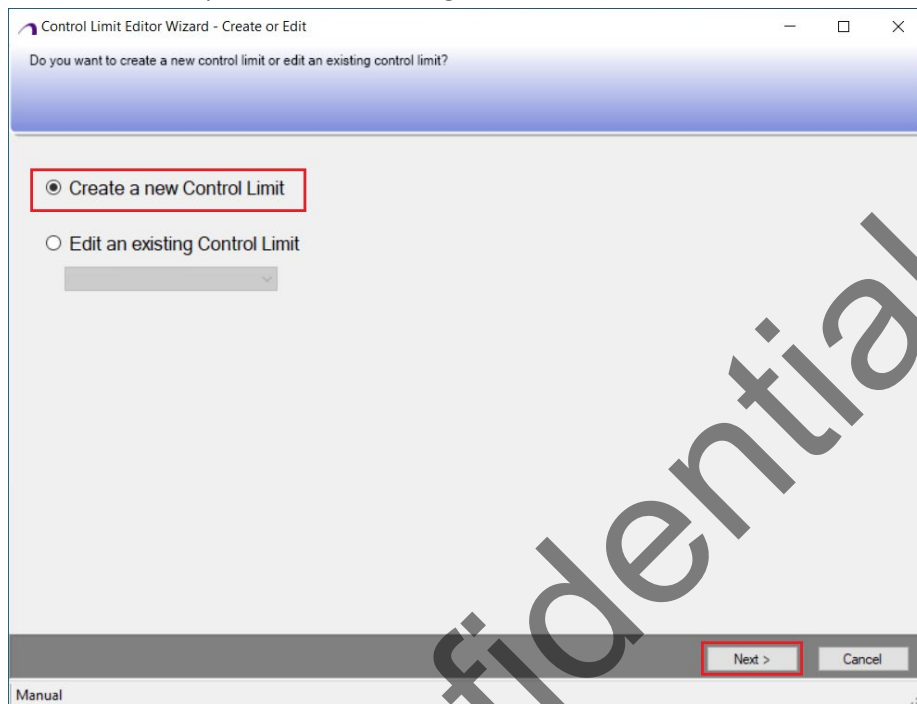

Figure 6-5 Control Limit Editor Wizard - Create or Edit window
1. Click **Create a Control Limit** on the **SAT** launcher UI. You can see the **Control Limit Editor Wizard - Create or Edit** window opens, as shown in Figure 6-5.